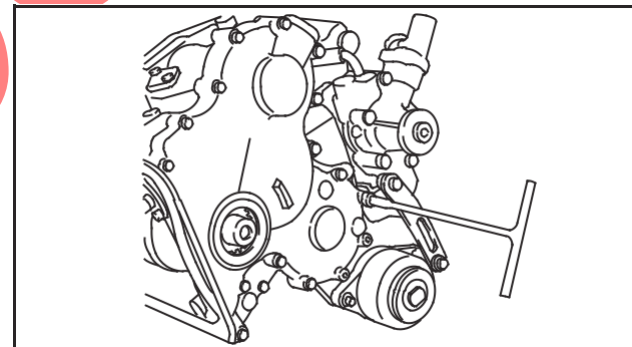

Fig. 9 – Removing Timing Gear Cover
4. Remove timing gear cover, Fig. 9.